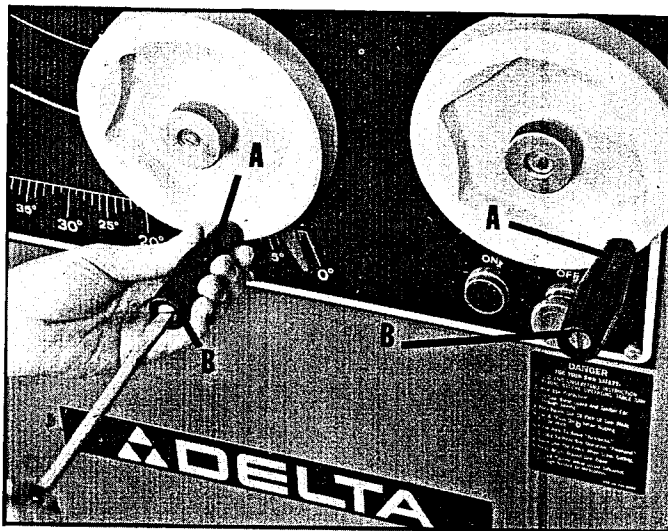

Fig. 4
1. Assemble the blade raising and blade tilting handles (A) and lock screws (B) Fig. 4, to the two handwheels, as shown.